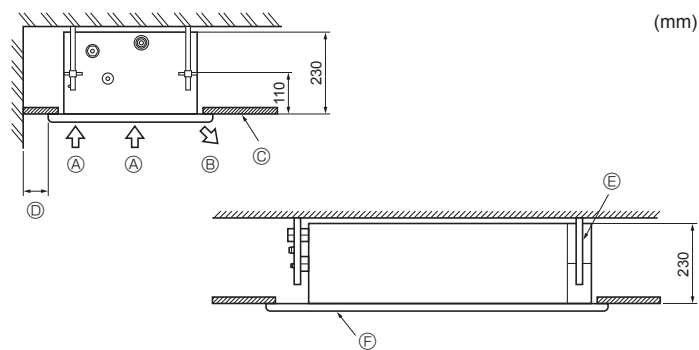
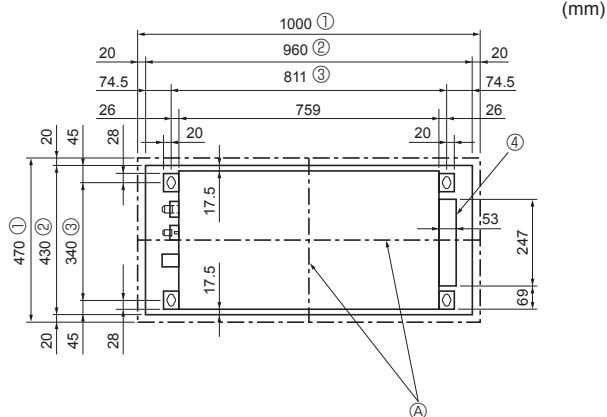

Fig. 2-2
Fig. 2-3
2.2. Service space (Fig. 2-2)
- (A) Air intake
- (B) Air outlet
- (C) Ceiling panel
- (D) Min. 200 mm
- (E) Suspension bolts W3/8 or M10
- (F) Grille
2.3. Ceiling openings and suspension bolt installation locations (Fig. 2-3)
- (A) The centres of the ceiling opening and the indoor unit should be aligned.
- ① Outer side of grille
- ② Ceiling opening
- ③ Bolt pitch
- ④ Electric box